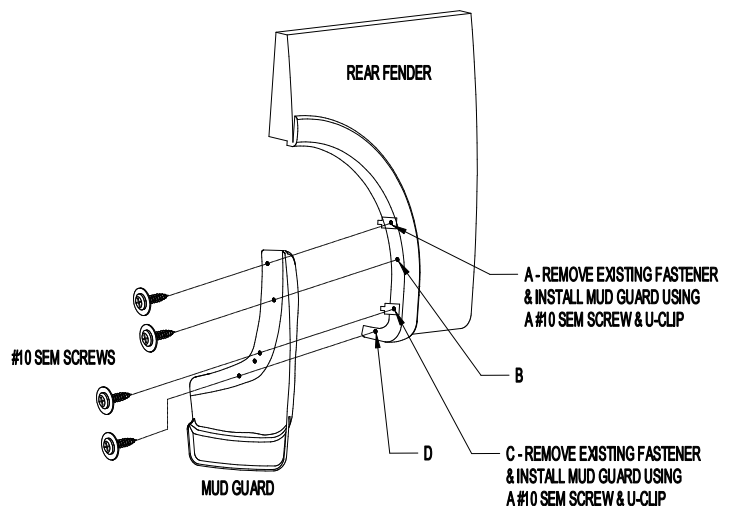

Figure 2
5. Remove existing fasteners from fender flare and fender at locations A and C; it may be necessary to cut the heads off of the existing plastic fasteners and push the remaining studs through the holes (Figure 2).